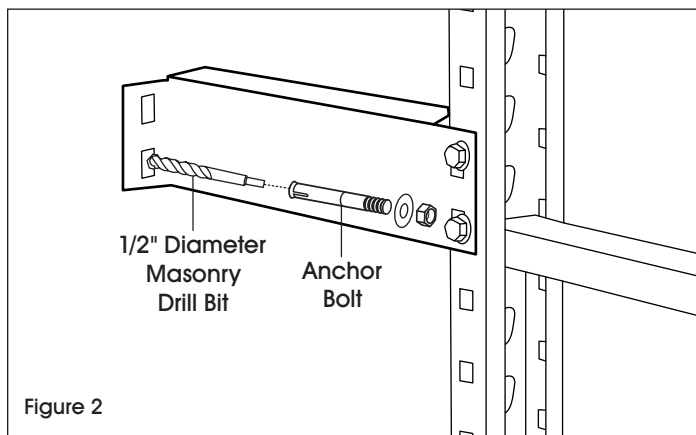

Figure 2
3. Using a 1/2" diameter masonry drill bit, drill a hole approximately 3" deep into the wall. (See Figure 2)